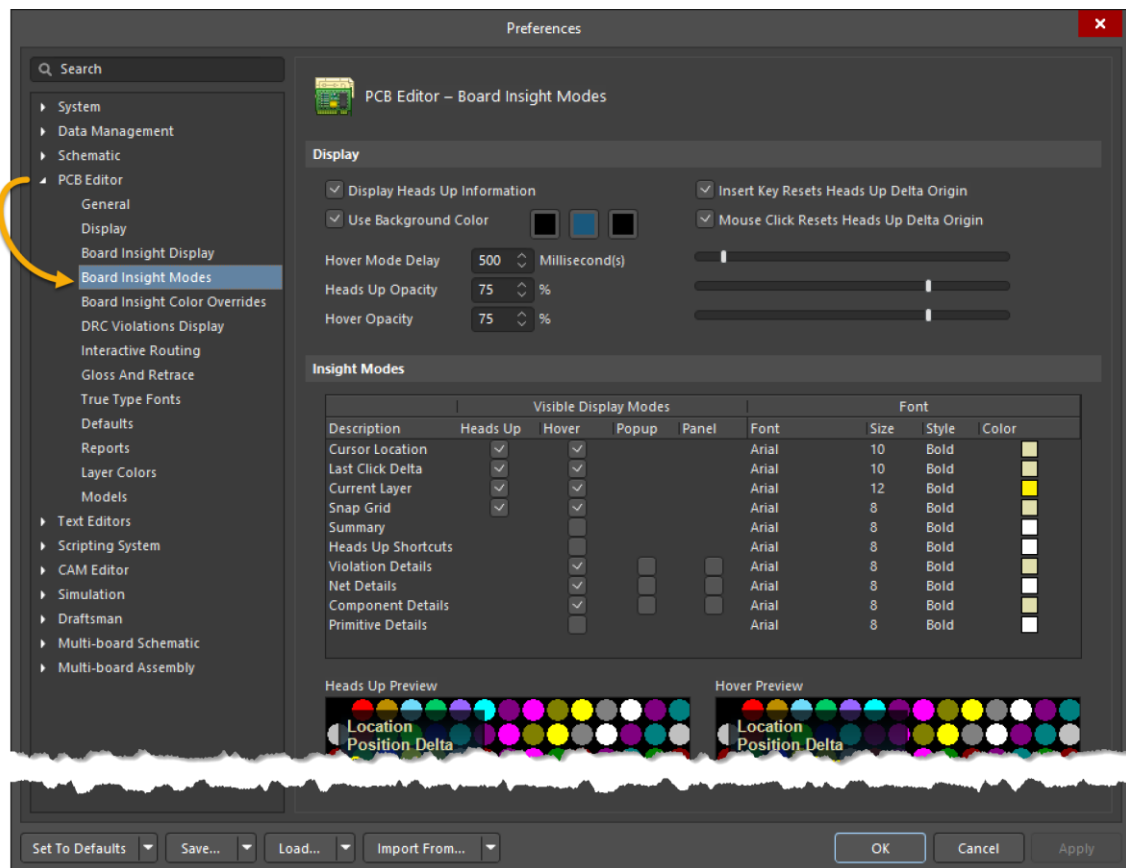

Figure 9. Board Insight Modes
26. Change to the section *Board Insight Modes* in the *Preferences*, as seen in Figure 9.